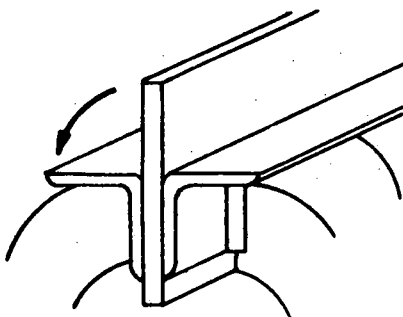

Fig. 6
3. For pieces that are larger than the vice, use squared sections or shoes (Figs. 6 and 7).